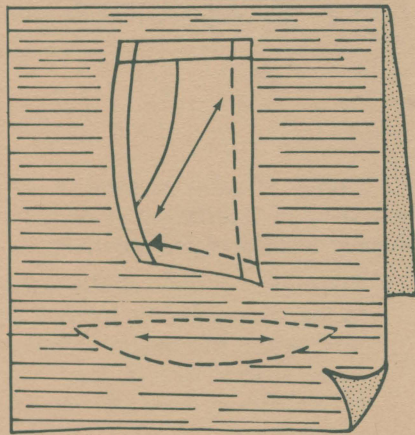

Figure 21c. Special layout using one-way stretch fusible interfacing
- To shape the neck area of the collar, add a second layer of interfacing. Cut to fit the under-collar from the roll line to the neck seam line with the center back seam line on a fold of the fabric. If the interfacing has a grainline, cut this second layer on the true bias of a woven, or on the crosswise grain of a non-woven (Figure 21c).